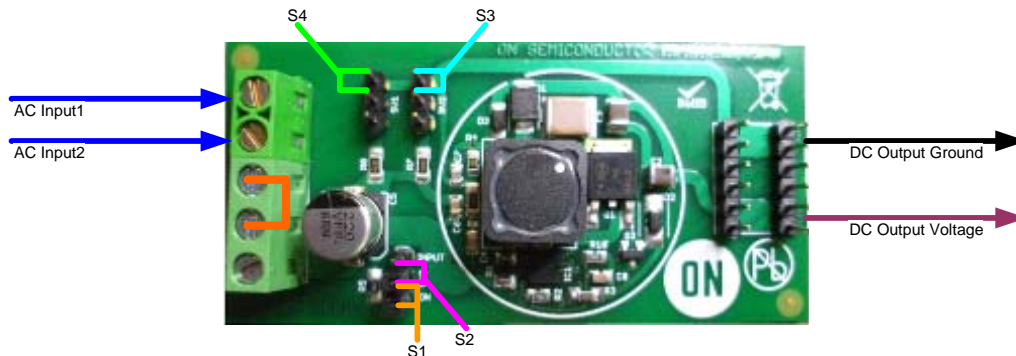

Figure 4: NCP3066 SEPIC AC Input PCB Enable Setup
3. Place a removable jumper as shown in Figure 4 as S1 to enable the part, S2 will disable the part.